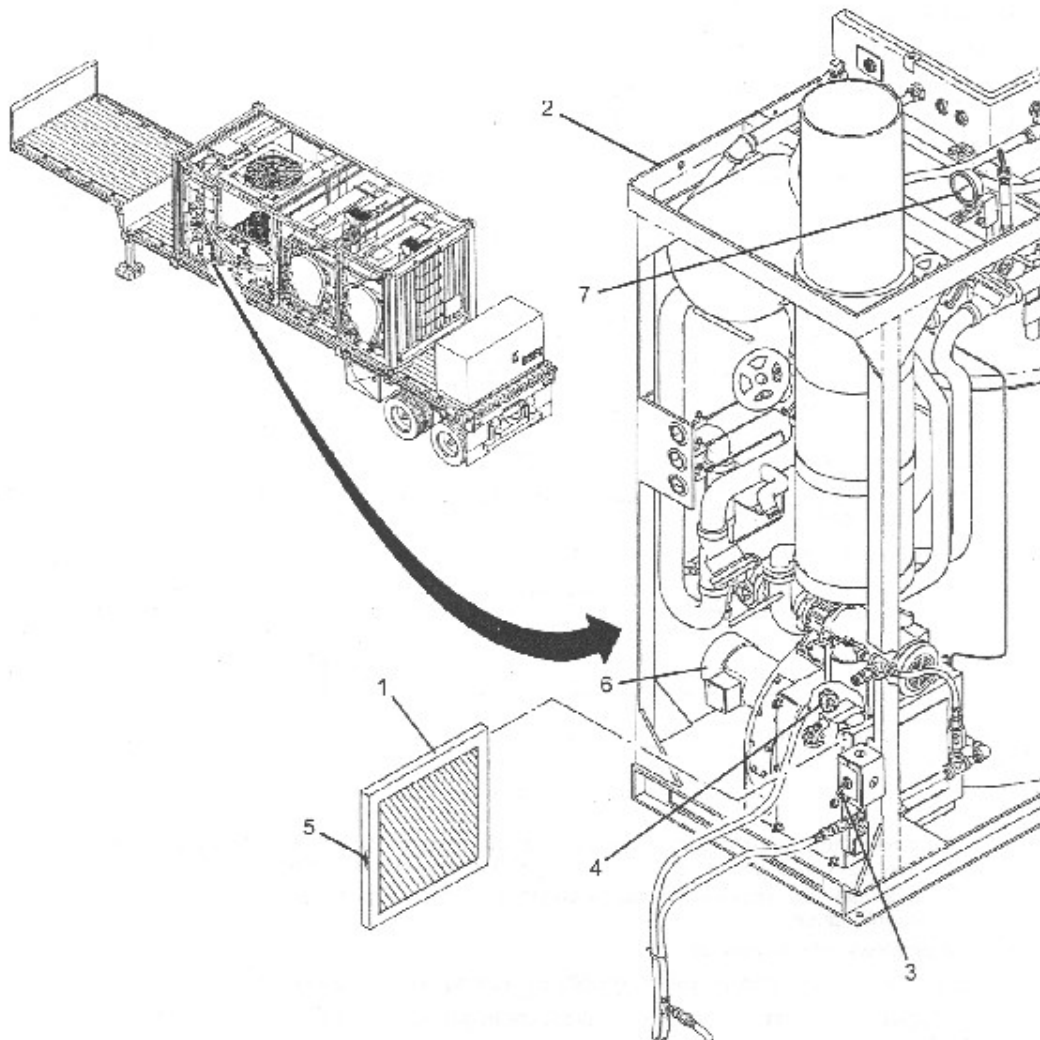

Figure 3-48
4. Observe fuel pressure gauge. If pressure remains above 125 PSI, wait for water heating to be completed, then proceed to Daily Operating Procedures to load laundry, otherwise repeat steps 1 through 3. (See Figure 3-48)